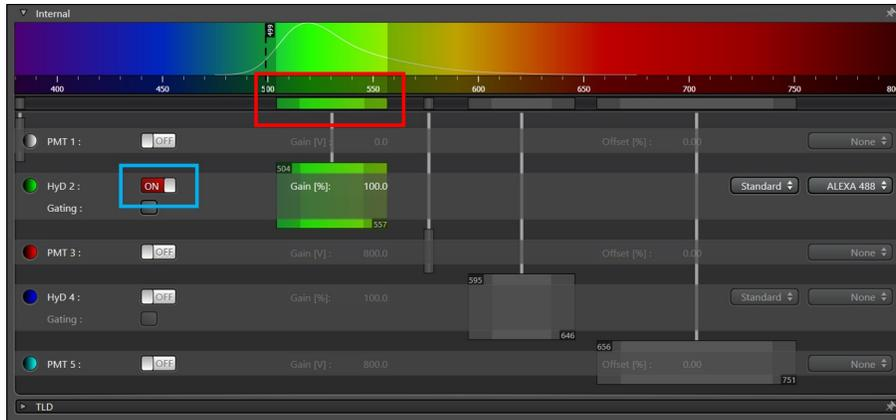

Figure 10: Turn on and off PMTs and adjust the AOBS bandwidth.
- Turn on the PMTs you will use for each laser line (**Blue** box) and adjust the bandpass window (**Red** box). See Figure: 10.